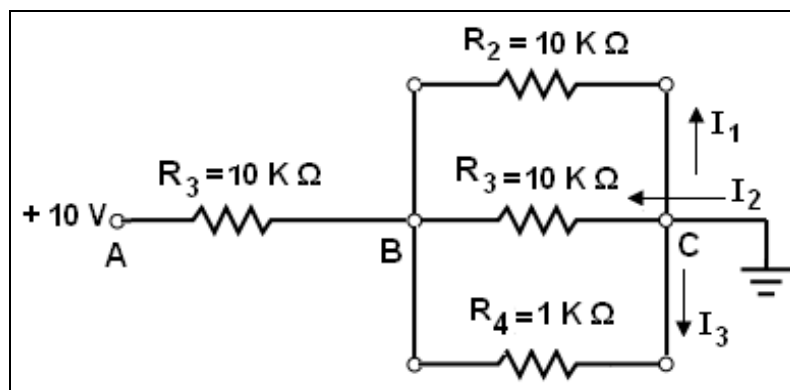

Fig. 2-1(a) Step 1
1. Construct the circuit shown in Fig. 2-1(a) on the ET-3100 Electronic Design Experimenter.